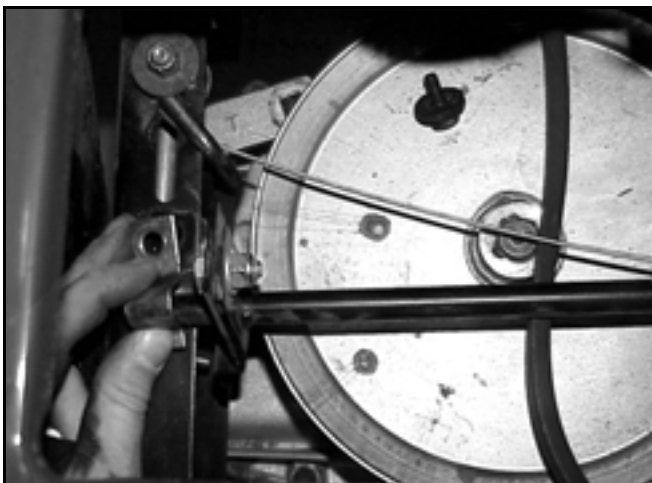

Figure 8
7. Remove the bolt and nut on the left side shift pivot clamp and slide the shift pivot rod so you can remove the shift tie rod (Figure 8).